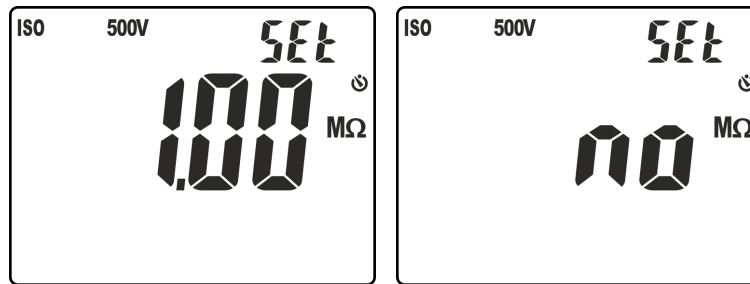

Fig. 16: Setting the limit threshold for insulation measurement
5. Press keys $\nabla/\text{☼}$ or $\blacktriangle/\text{ZERO}$ to select the value among the options: **0.10M Ω** , **0.230M Ω** , **0.50M Ω** , **1.00M Ω** , **100M Ω** , **no**. Option “no” indicates that no threshold was set (see Fig. 16).
4. Press and hold key **VTEST/LIM** (>2s) to set the **minimum** limit threshold for measurement. The symbol "Set" flashes on the display. Press keys **▼/⚡** or **▲/ZERO** to select the value among the options: **0.10MΩ, 0.230MΩ, 0.50MΩ, 1.00MΩ, 100MΩ, no**. Option "no" indicates that no threshold was set (see Fig. 16).